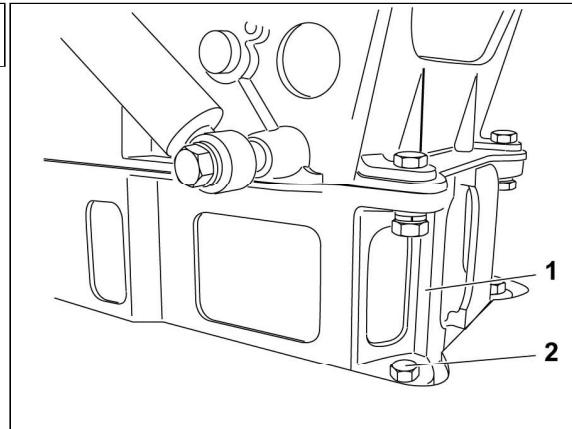

Fig. 13.55 Seat - installation 1
3. Fit spring washers **1** on bolts **2** (See Fig. 13.55) from below of the cabin.